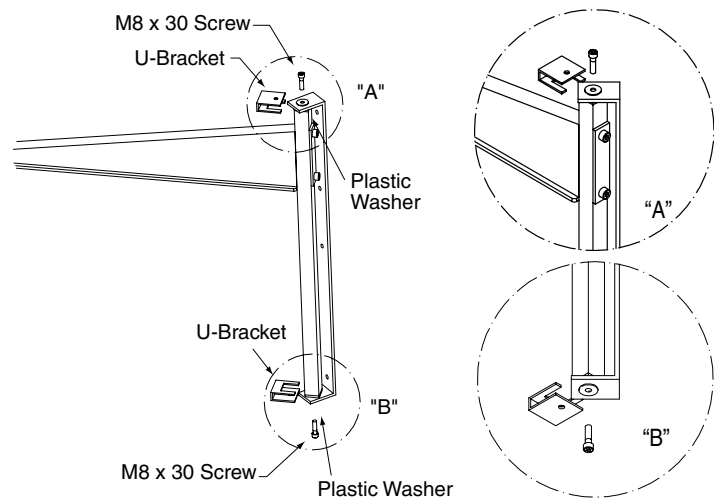

Figure 3
- ④ PLEASE NOTE: This step requires two people: one to hold the swivel assembly, and one to attach the assembly to the wall bracket, using U-brackets, M8 x 30 screws and plastic washers provided (See Fig. 3).